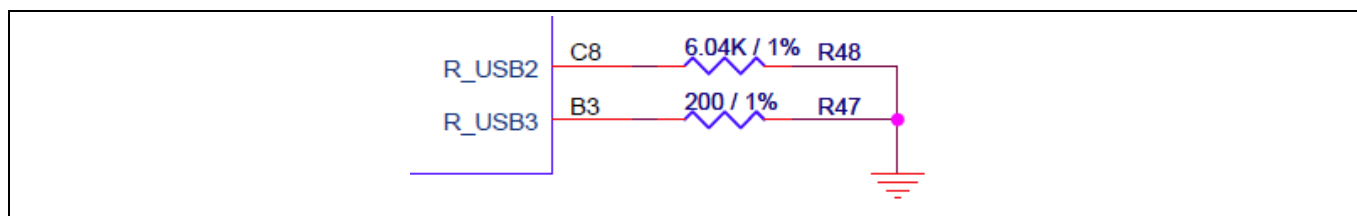

Figure 14 USB2 and USB3 reference resistors
- Tie the R_USB2 pin to ground through a 1% 6.04-k Ω precision resistor. The R_USB3 pin should be tied to ground through a 1% 200- Ω precision resistor. See Figure 14.